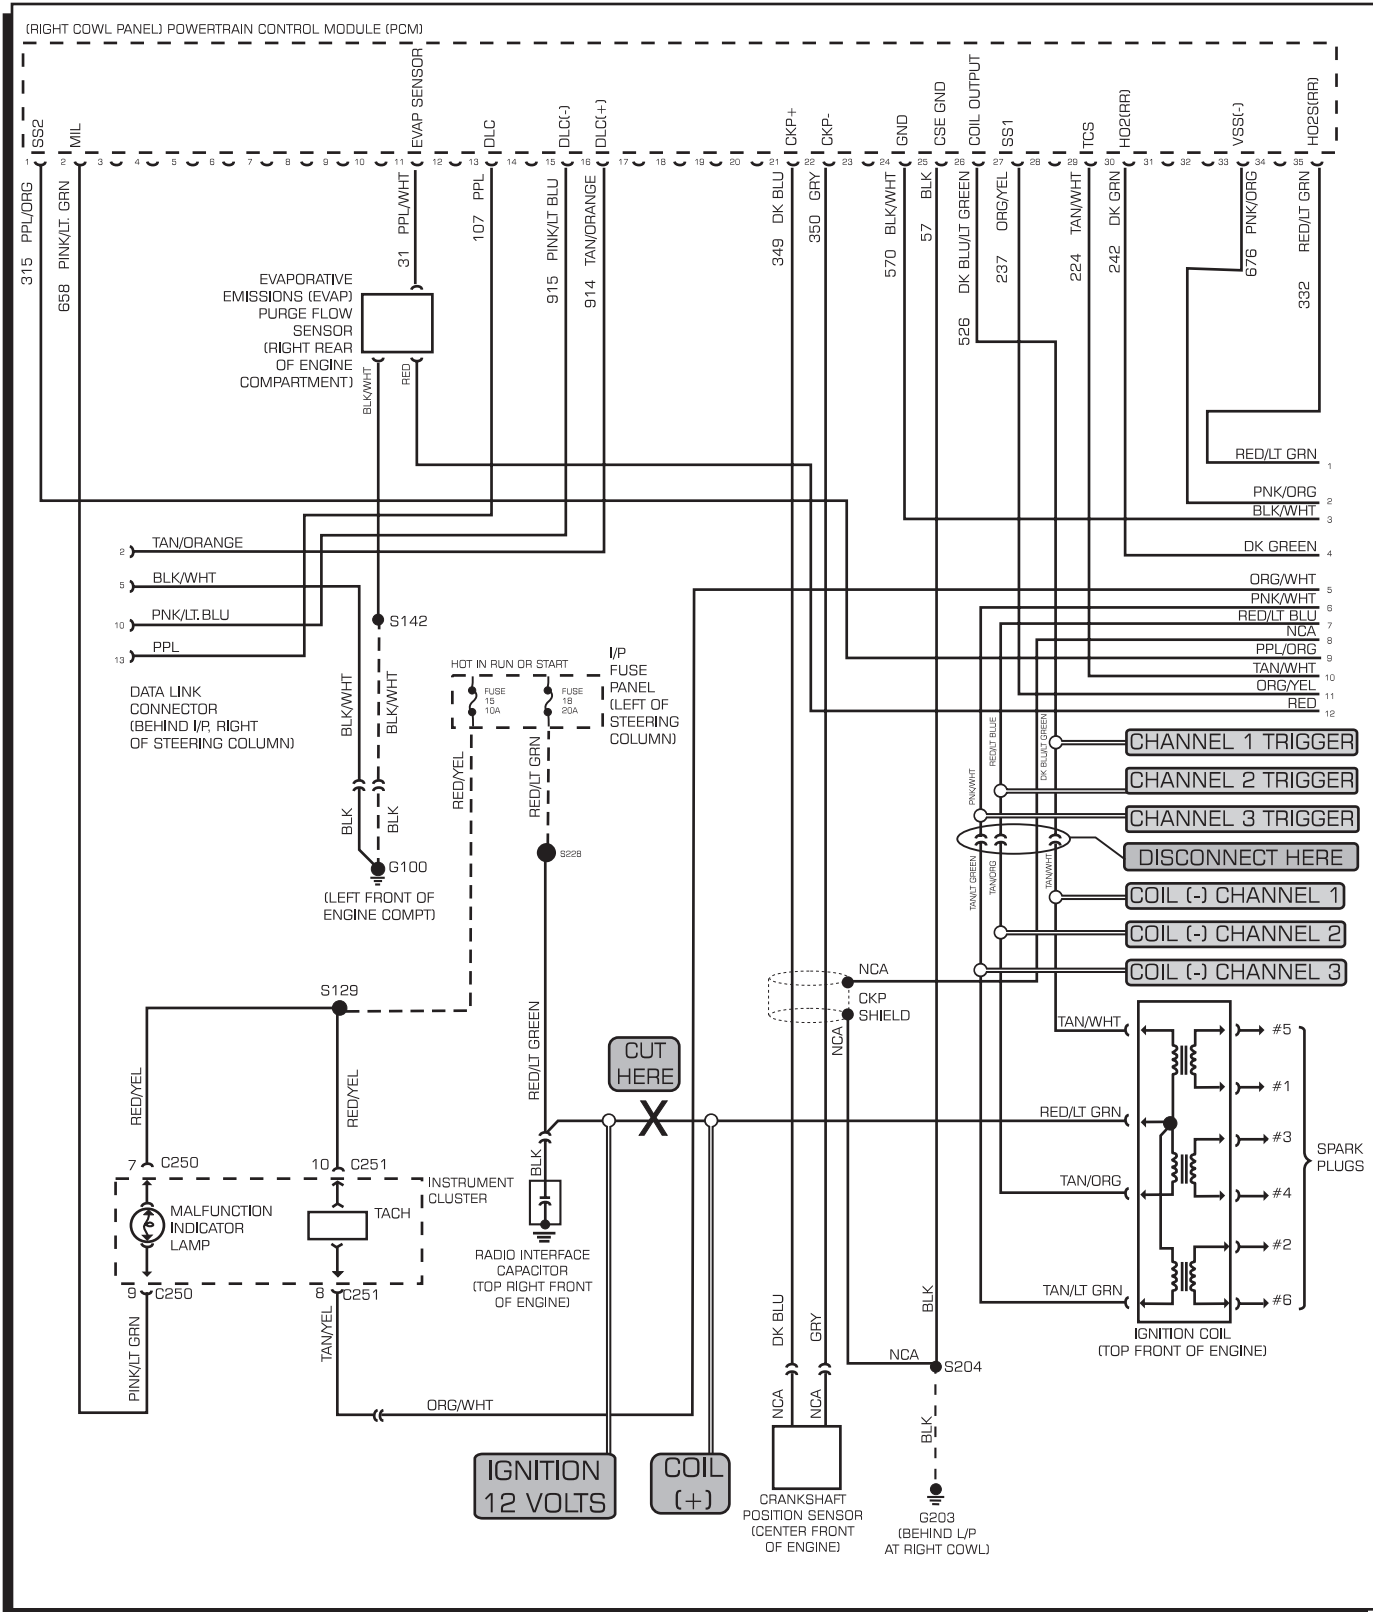

Figure 3 General Wiring Before Installation of the MSD.
- D. The remaining wires on the harness are the trigger wires. On a 4-cylinder you should have two, on a 6-cylinder three, and on a 8-cylinder there should be four. Each of these wires needs to be connected to one of the trigger input wires of the DIS Ignition. Using Figure 3 and 4 as a guide, connect the DIS trigger input and coil (-) wires as follows.